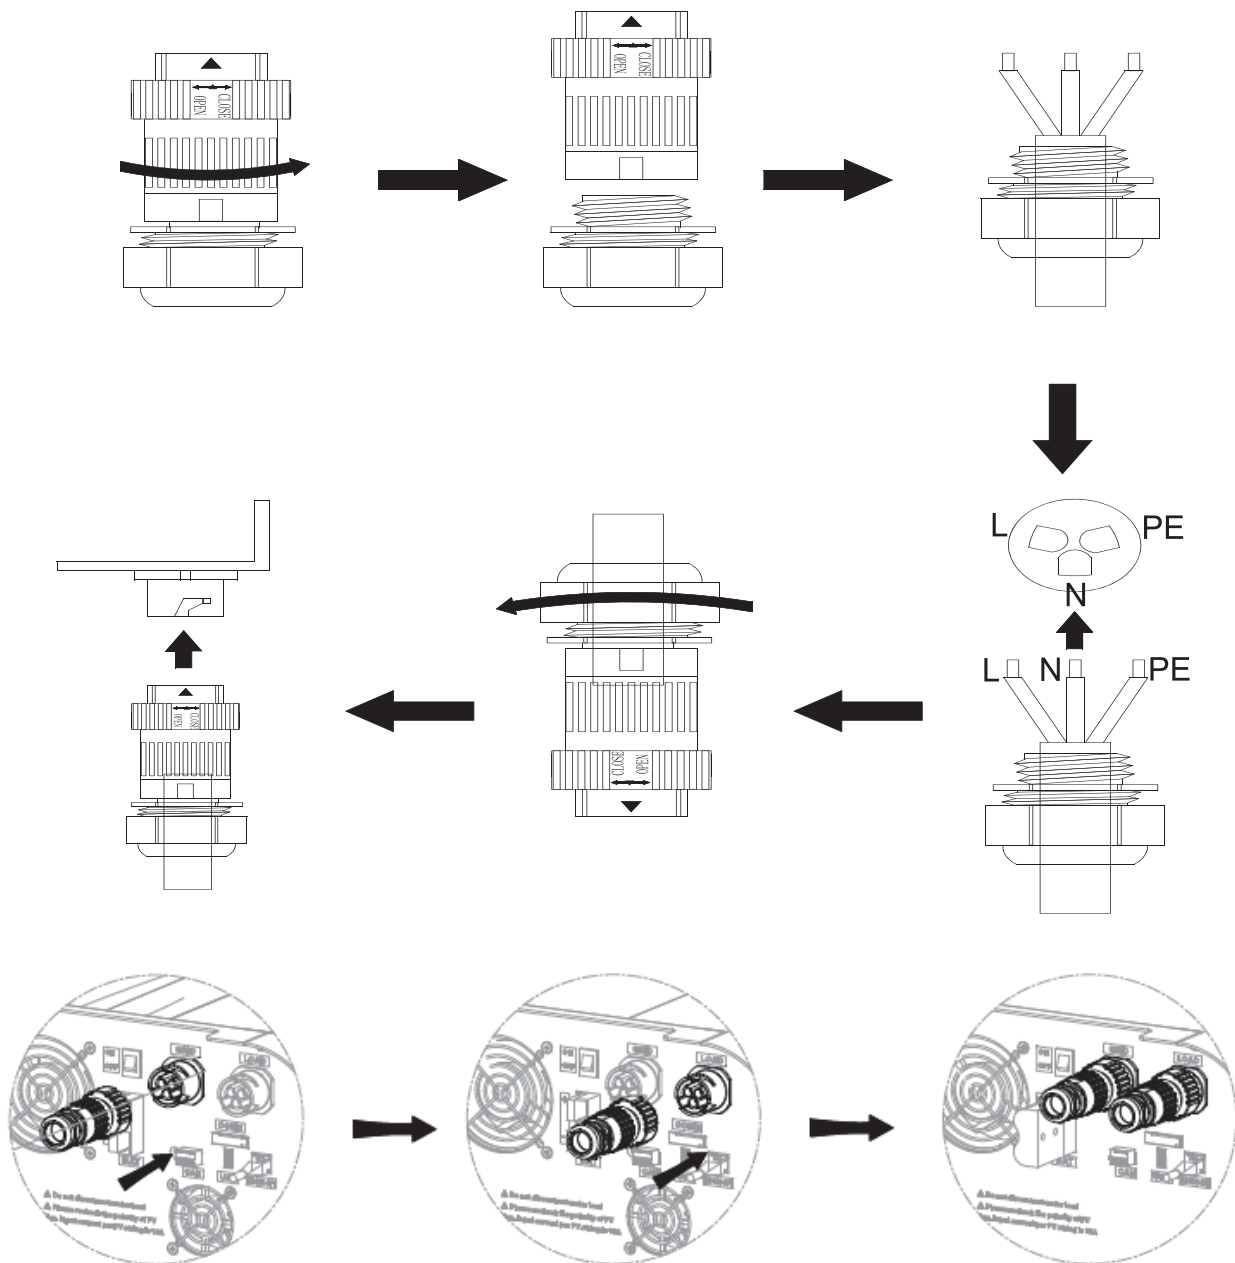

Figure 5.2 AC/load side and energy storage inverter wiring diagram
(1) Before connecting the AC power grid cable to the energy storage inverter, the lightning protection and short circuit protection measures must be taken in accordance with the local electrical safety regulations. The PE cable (grounding cable) of the inverter must be reliably grounded.
(2) Connect the three wires of the single-phase public power grid L, N, and PE to the AC terminal and lock them according to Figure 5.2. The crimping torque is 1.2N·m. Ensure that the wire conductor is crimped firmly and not exposed, then connect the AC terminal to the AC port of the energy storage inverter. Turn the connector cover until you hear the sound 'click'.
(3) Connect the three wires of the load L, N, and PE to the quick-connect terminal and lock them as shown in Figure 5.2. The crimping torque is 1.2N·m, ensuring that the wire conductor is not exposed and crimped firmly, then connect quick-connect terminal to the Load port of the energy storage inverter. Turn the connector cover until you hear the sound 'click'.